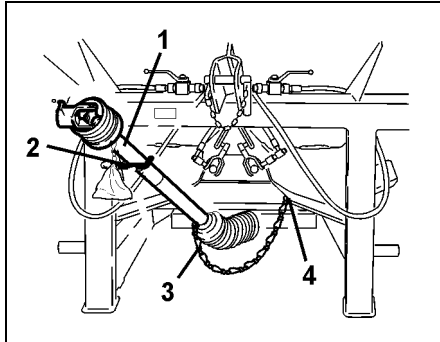

Fig. 17
- Push on second pto shaft half (Fig. 17/1) and place in retainer (Fig. 17/2).
- Secure guard tube with chain (Fig. 17/3) on the provided fixing eye (Fig. 17/4).